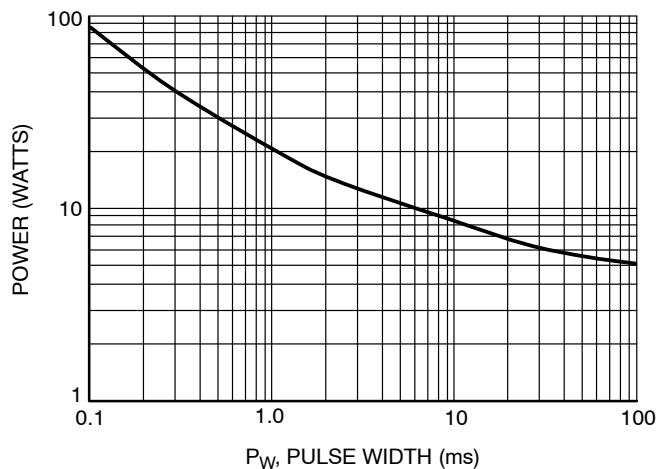

Figure 12. Maximum Non-repetitive Surge
2. For different square pulse durations, see Figure 12.